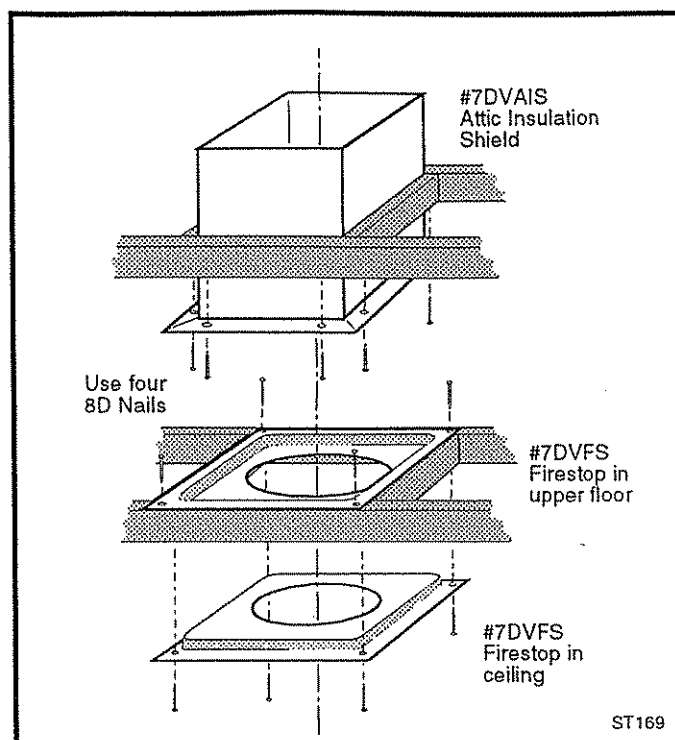

Fig. 38 Install firestops and attic insulation shield.
6. Install Firestop(s) #7DVFS and Attic Insulation Shield #7DVAIS as appropriate. (Fig. 38) If there is a room above ceiling level, a firestop must be installed on both the bottom and top sides of the ceiling joists. If an attic is above ceiling level, an Attic Insulation Shield must be installed.